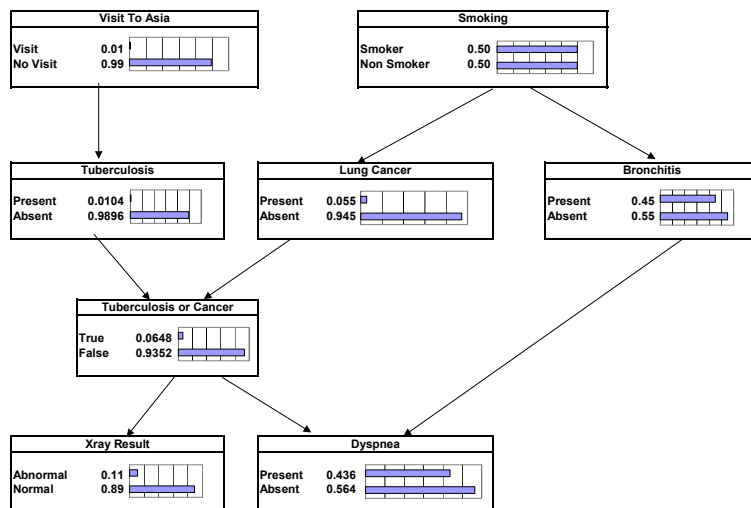
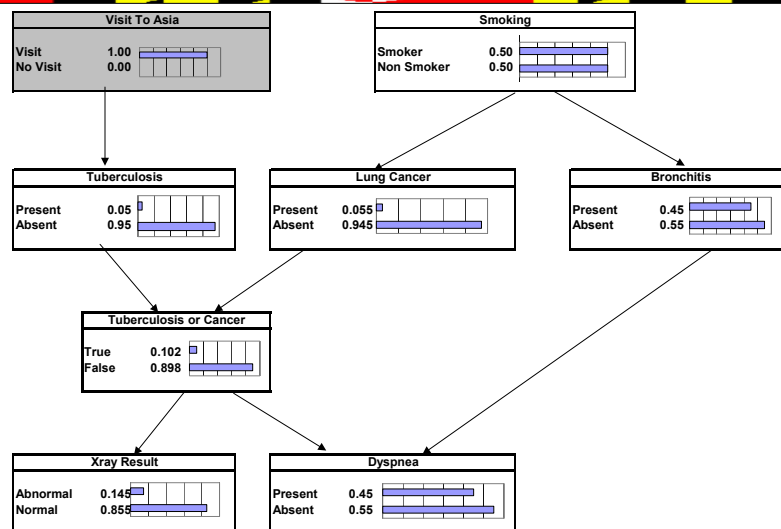

Figure 16a. Propagation of Probabilities in Percentages in a Bayesian Network
Figure 16b. Updating Probabilities Based on Visit to Asia
- The unconditional or marginal probability distribution functions are frequently called the belief function of the nodes as shown in Figure 16a
- Interviewing a patient produces the information for the box of visiting Asia to certainty (100%) as shown in Figure 16b.
- Using the conditional probabilities $P(T|V) = 0.05$ and $P(T|\bar{V}) = 0.01$, the Bayesian table can then be constructed for the first directed arrow of Figure 16a from V to T as follows:
- Similar treatments can be developed for all the relationships, i.e., directed arrows, of Figure 16a using the following summary of conditional probabilities based on these arrows:
Note: These conditional probabilities can be used to construct the rest of Figure 16a. Figures 16b to 16e can be constructed using similar process involving trial and error to obtain set consequent results in some cases